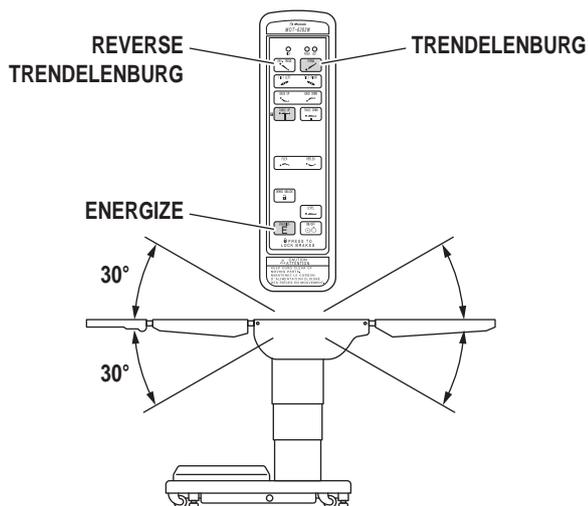

Figure 2-8. Trendelenburg Positioning
b. Trendelenburg To place the table in a Trendelenburg (head down) position, press the ENERGIZE button and then the TREND button (figure 2-8). To place the table in a reverse Trendelenburg (head up) position, press the ENERGIZE button and then the REV TREND button. Trendelenburg positioning of up to 30° may be obtained.